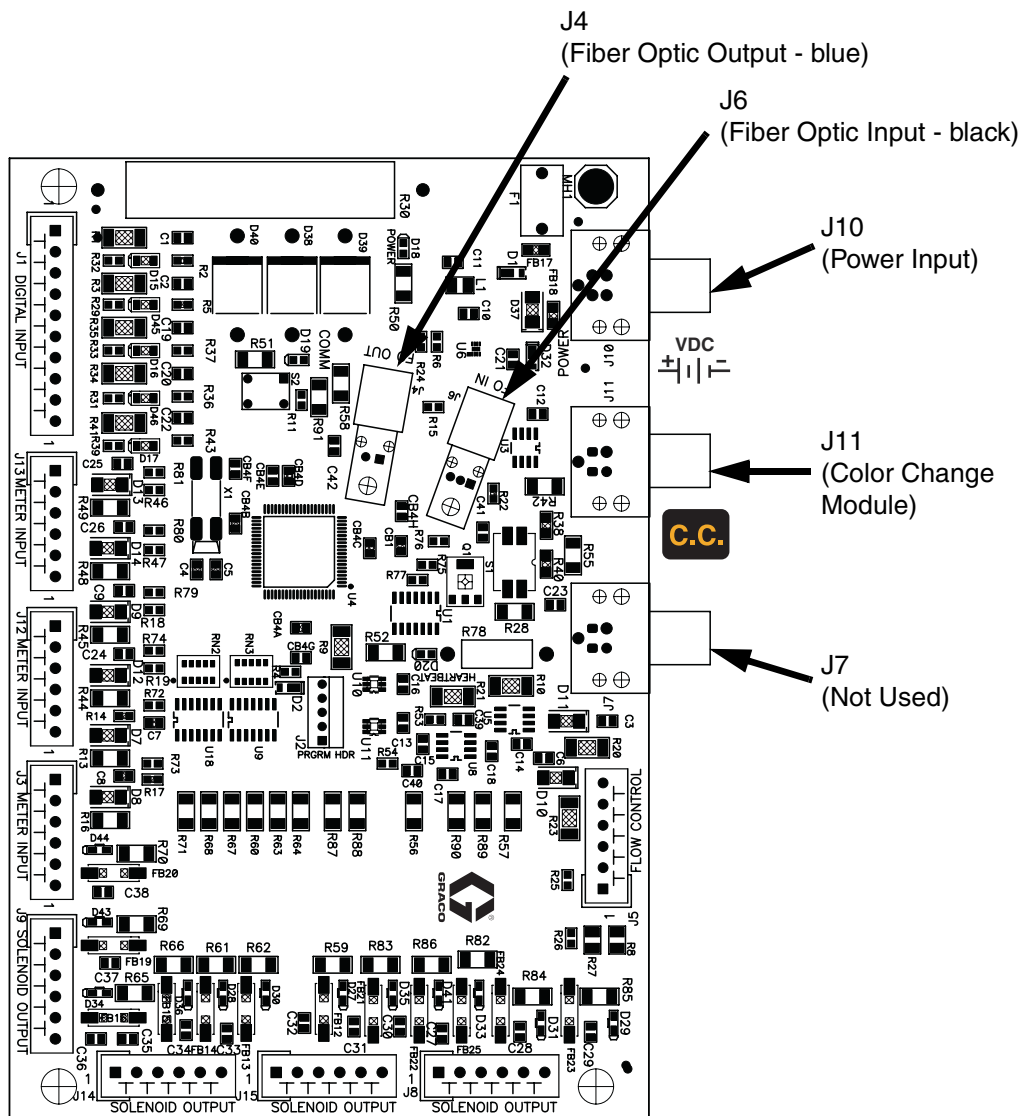

FIG. 11. Fluid Station Board Connections
2. Connect the other cable end to the Fluid Station Control connector $\overset{\text{VDC}}{\pm}| | \text{—}$ (J10). See FIG. 11.
5. Connect the blue and black cable connectors to the matching connectors on the fluid station circuit board. See FIG. 11. Insert the cable connectors until they bottom out (approximately ¼ in. [6 mm]), then tighten the threaded connector.